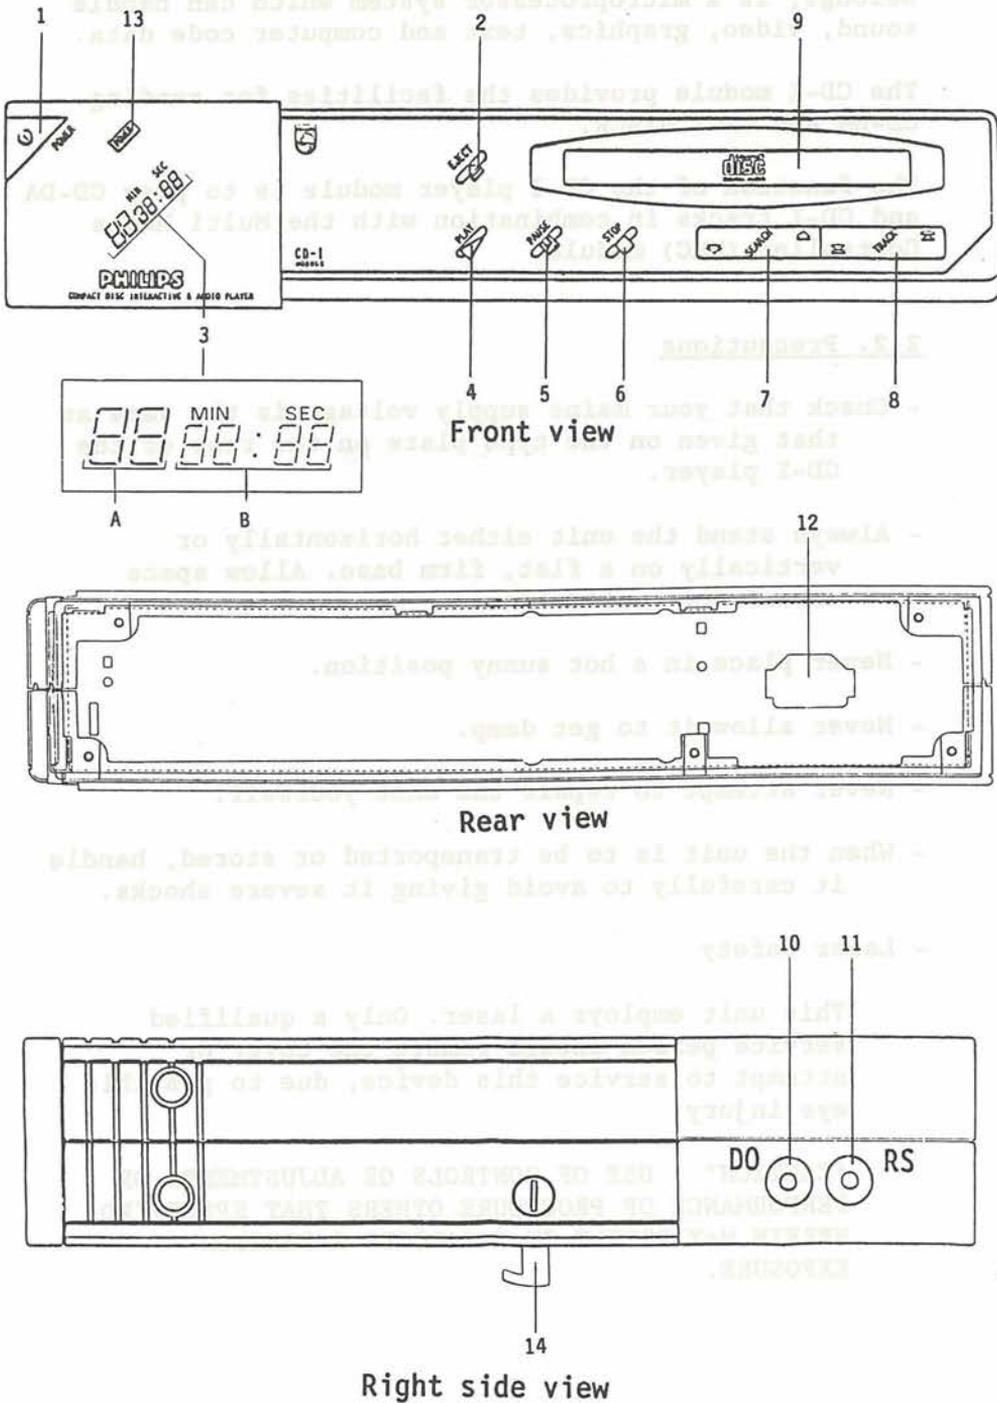

Fig. 2-1.
2. Connections and controls are shown in Fig. 2-1.
4. To help you to locate buttons easily, the names used throughout the text are the same as those marked on the CD-I player. The numbers between brackets refer to Fig. 2-1.